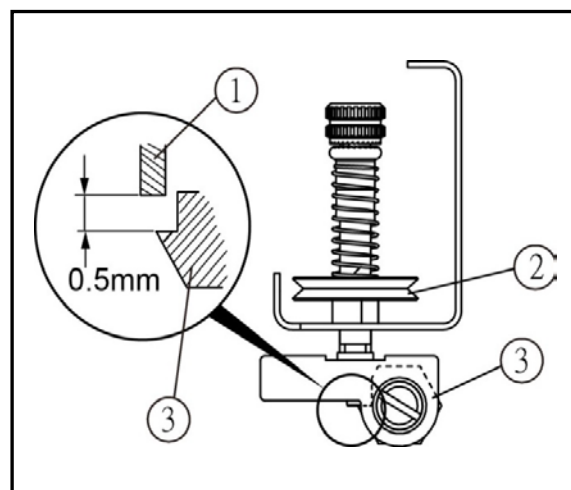

Fig. 11
Make sure to keep a clearance between the tension release pins ① and the tension release shaft ③ at 0.5mm when six tension release pins ① are pushed up slightly and the upper thread tension disc ② starts parting from the lower thread tension disc without pressing the presser foot pedal. (Fig. 11)
- (2) Turn the tension release shaft ③ with a screwdriver. (Fig. 11)